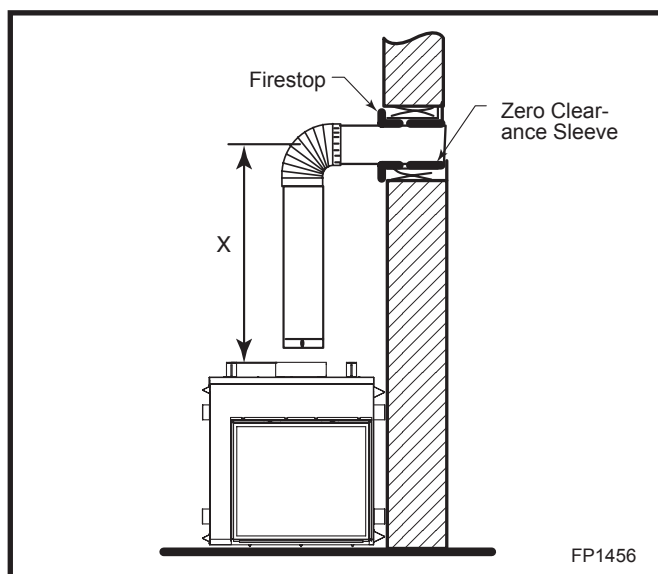

Fig. 21 Vertical height requirement.
Place fireplace into position. (Fig. 21) Measure the vertical height (X) required from the base of the flue collars to the center of the wall opening. **NOTE:** If using the SK8DVSK Kit, the vertical section of pipe is telescopic and could provide adjustment from 24" up to 40" (610 to 1016 mm).
Place fireplace into position. (Fig. 21) Measure the vertical height (X) required from the base of the flue collars to the center of the wall opening. **NOTE:** If using the SK8DVSK Kit, the vertical section of pipe is telescopic and could provide adjustment from 24" up to 40" (610 to 1016). Through the wall section shipped with the starter kit will not be used when going through the wall.